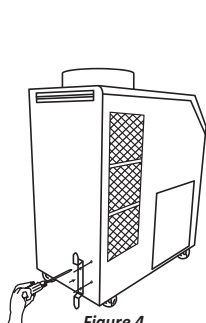

Figure 4
3. Use screws (enclosed inside of accessory box with cord holder) to install the cord holder on the air conditioner as shown in Figure 4.